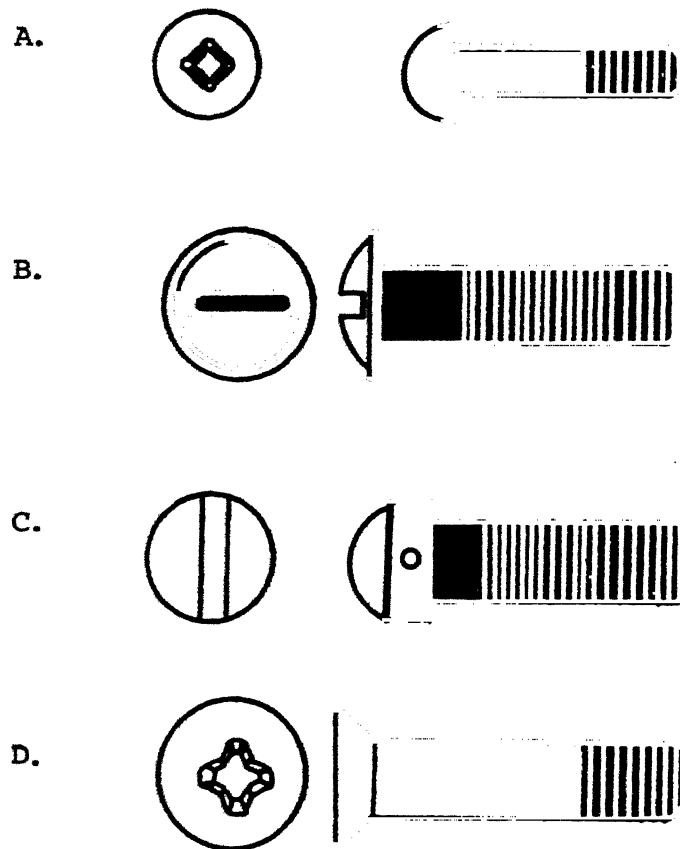

FIGURE 10-4.—Structural or machine screws:
8. Machine screws and structural screws have a number of different head styles--brazier, washer, fillister, and flat (see figure 10-4.)